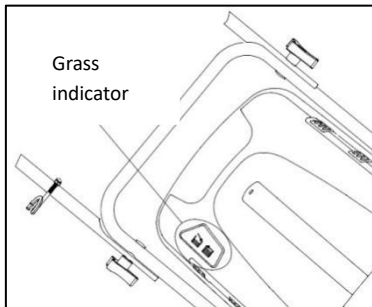

FIG 14A
- If the catcher is full, the indicator collapses; once this happens, stop moving immediately and empty the catcher, make sure it is clean and ensure its meshwork is ventilated. (Fig. 14A)